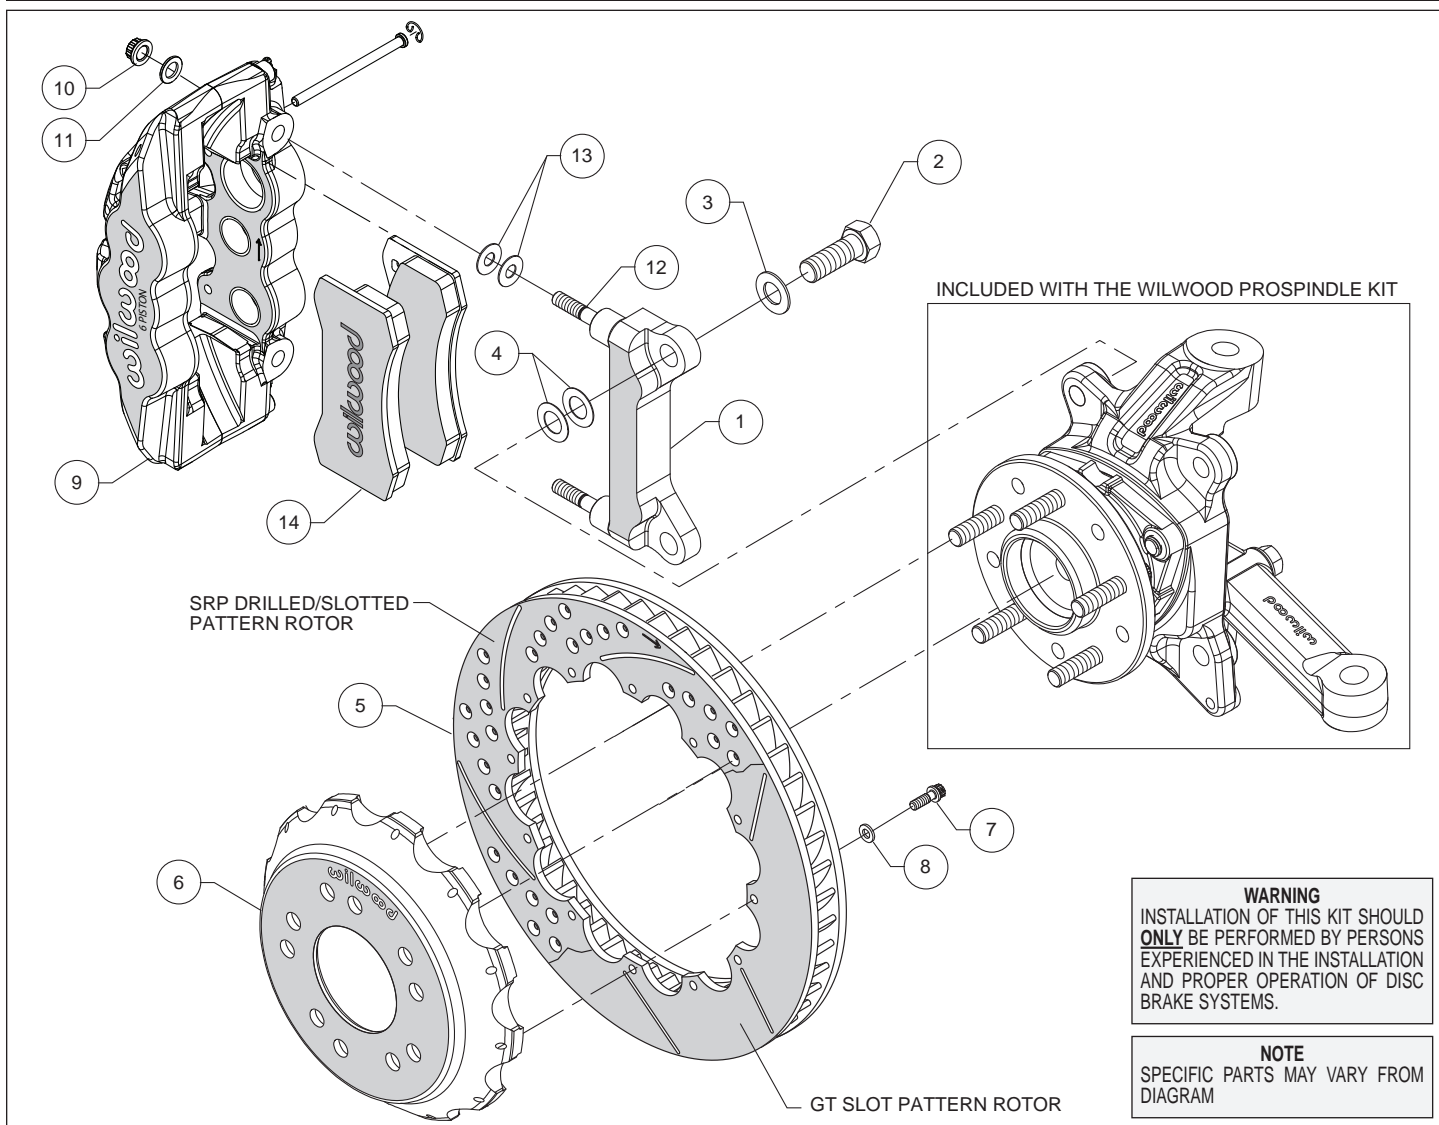
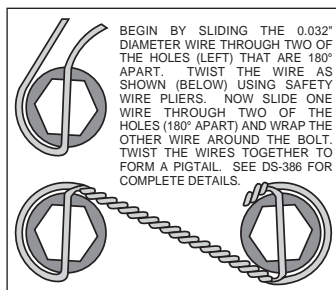

Figure 1. Typical Installation Configuration
Figure 3. Safety Wire Diagram
**Assembly Instructions** (numbers in parenthesis refer to the parts list and Figure 1 on the preceding pages):
- The caliper mount bracket (1) should initially be installed with clean, dry threads on the mounting bolts. Orient the bracket as shown in Figure 1 and Photo 1 and install using mount bolts (2) and washers (3). Initially place two .024" thick shims (4) on each bolt between the bracket and spindle, Figure 1. Temporarily tighten the mounting bolts. **NOTE:** The bracket must fit squarely against the mounting points on the spindle. Inspect for interference from casting irregularities, machining ridges, burrs, etc. Later, after the caliper alignment has been checked, the mount bolts will be secured using red Loctite® 271.
- Orient the rotor (5) and the hat (6) as shown in Figure 1 and Photo 2. Attach rotor to hat using bolts (7) and washers (8). Using an alternating sequence, apply red *Loctite*® 271 to the threads, and torque to 155 **in-lbs**. For an added measure of security, the bolts may be safety wired using standard 0.032 inch diameter stainless steel safety wire as shown in Figure 3. Please refer to Wilwood's data sheet DS-386 (available at [www.wilwood.com/Pdf/DataSheets/ds386.pdf](http://www.wilwood.com/Pdf/DataSheets/ds386.pdf)) for complete safety wire installation instructions.
- **NOTE:** *This kit contains distinct right and left hand calipers that must be mounted in a specific direction, as described below.* Lubricate the caliper mounting studs (12) with lightweight oil. Initially place two .030" thick shims (13) on each stud between the caliper and the bracket, as shown in Figure 1 and Photo 5. Mount the caliper (9) onto the bracket (1) using lock nuts (10) and washers (11), Figure 1. Ensure that the caliper is mounted so the largest pistons are at the rotor exit end of the caliper, in relation to the direction of rotor rotation. Temporarily tighten the lock nuts and view the rotor through the top opening of the caliper. The rotor should be centered in the caliper, Photo 6. If not, adjust by adding or subtracting shims (4) between the bracket and the spindle. Always use the same amount of shims on each of the two mounting bolts. Once the caliper alignment is correct, remove the bracket mounting bolts one at a time, apply red *Loctite*® 271 to the threads, and torque to 140 ft-lb.
- Remove the two pad retaining pins from the caliper (9) by carefully popping out the pin retaining clips and sliding out the pins. Insert the brake pads (14) into the caliper from the bottom, Figure 1, Photo 7. With the friction material facing the rotor, secure the brake pads in place with the pad retaining pins and clips, Photo 8. Reinstall the caliper onto the caliper mounting bracket and temporarily tighten the lock nuts. Check that the top of the brake pad is flush with the outside diameter of the rotor, Photo 9. If not, adjust by adding or subtracting shims (13) between the caliper and the bracket. After the caliper pad height is set, torque the caliper lock nuts (10) to 47 ft-lb.